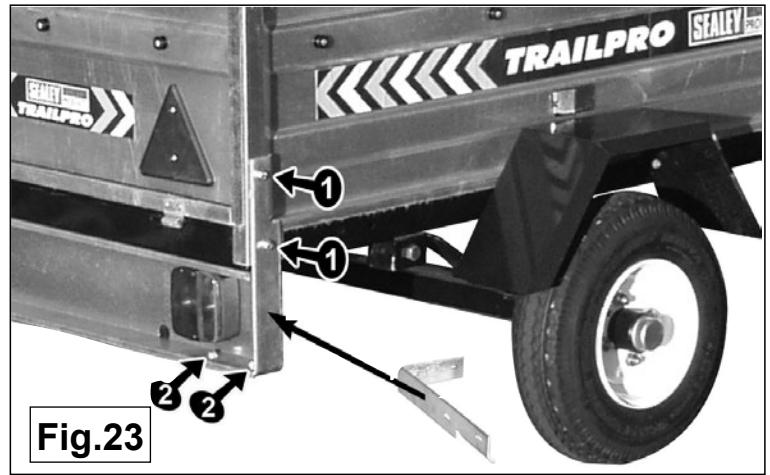

Fig.23
5.14 Fix the two lighting board side brackets in place as indicated in Fig.23. Insert two M8 x 20 bolts per side into threaded inserts in positions '1'. The short part of each bracket lies underneath the lower part of the lighting board and is bolted in place using two M6 x 16 bolts per side (positions '2') retained with M6 Nyloc nuts.
5.15 Fix the two mudguards as shown in Fig.23. Each mudguard is held in place with two M6 x 15 bolts and two spring washers. The bolts are screwed directly into threaded holes in the sides of the base frame.